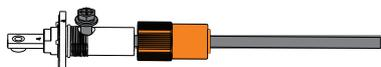

Figure 4.2-5
Step4: Locking screw, as shown in Figure 4.2-5.